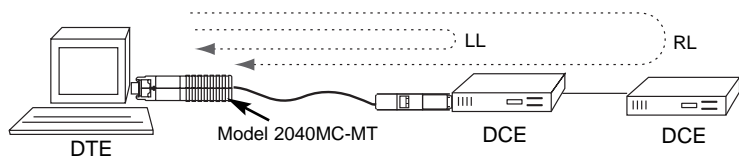

Figure 10. Local Loopback and Remote Loopback Modes
The Model 2042 supports two loopback modes that may be used to evaluate the condition of the communication links. These modes, (Local Loopback (LL) and Remote Loopback (RL), are always **initiated by the signals on the DTE device** (See Figure 10). This section describes both loopback modes.